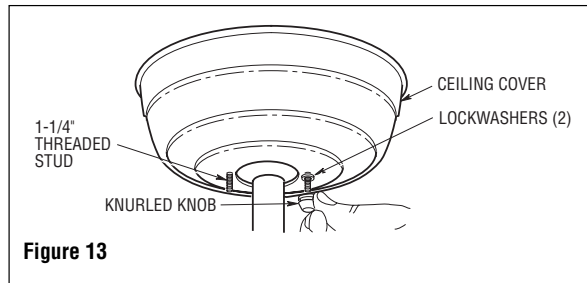

Figure 13
3. Lift the ceiling cover up to the threaded studs and turn until studs protrude through the holes in the ceiling cover (Figure 13).
4. Secure the ceiling cover in place by sliding lockwashers over the threaded studs and installing the two knurled knobs (supplied). (Figure 13.) Tighten the knurled knobs securely until the ceiling cover fits snugly against the ceiling and the hole in the ceiling cover is clear of the pipe.